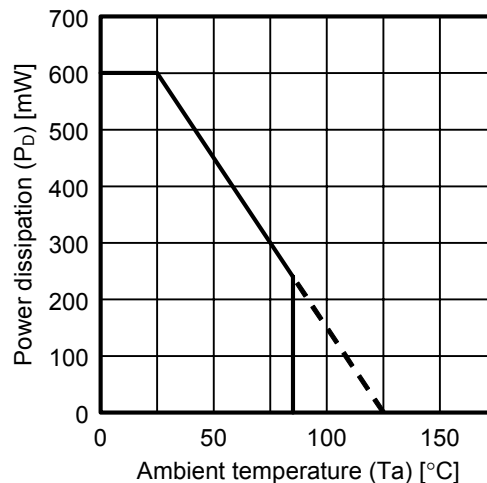

Figure 3 Power Dissipation of Package (Mounted on Board)
(1) Board size: 114.3 mm × 76.2 mm × t1.6 mm
(2) Board name: JEDEC STANDARD51-7
- Since this IC has a built-in power MOS FET, make sure that dissipation of the power MOS FET does not exceed the allowable power dissipation of the package. (Refer to Figure 3.) Generally, dissipation of a switching regulator can be calculated by the following equation.